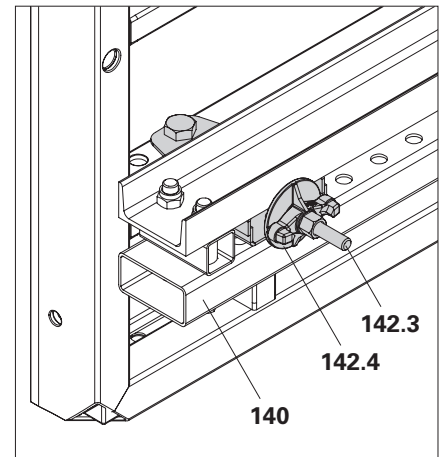

Fig. C1.04a
- The Formwork Waler 150 CB (110) is attached to the Clamp Adapter MX/TR – SRU (142) as standard by means of the Tie Rod DW 15 (142.3) and Wingnut Counterplate DW 15 (142.4). (Fig. C1.04a)
4. Brace the Formwork Waler 150 CB (**110**) on the formwork using Tie Rod DW 15 (**142.3**) and Wingnut Counterplate DW 15 (**142.4**). (Fig. C1.04a)